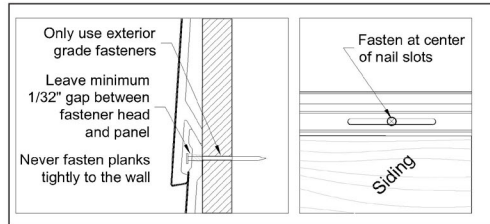

Figure 4
- Everlast is a floating siding system that accommodates lateral expansion and contraction within pocketed trim. Therefore, never hard nail siding planks tightly to the wall (Figure 4).
- Always fasten siding planks through the center of the pre-punched nailing slots (Figure 4).
- Always leave a minimum 1/32" gap between the nail head and the nailing hem (Figure 4).
- Fastening into OSB or plywood sheathing is acceptable. Be sure the fasteners are long enough to penetrate a minimum 3/4" beyond the sheathing. Note: Fasten into studs when possible (Figure 4).